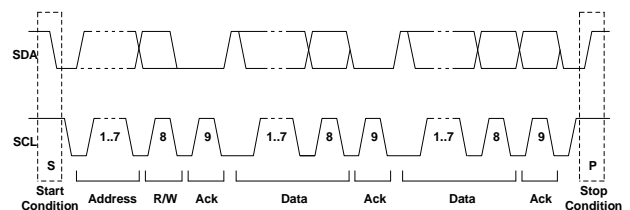

Figure 5: A Complete Data Transfer
Data transfers follow the format shown in Figure 5. After the Start condition (S), a slave address is sent. This address is 7-bits long followed by an eighth bit, which is a data direction bit (R/W). A '0' indicates a transmission (write), and a '1' indicates a request for data (read). A data transfer is terminated always by a Stop condition (P) generated by the master. However, if a master still wishes to communicate on the bus, it can generate a repeated Start condition (Sr) and address another slave without first generating a stop condition.